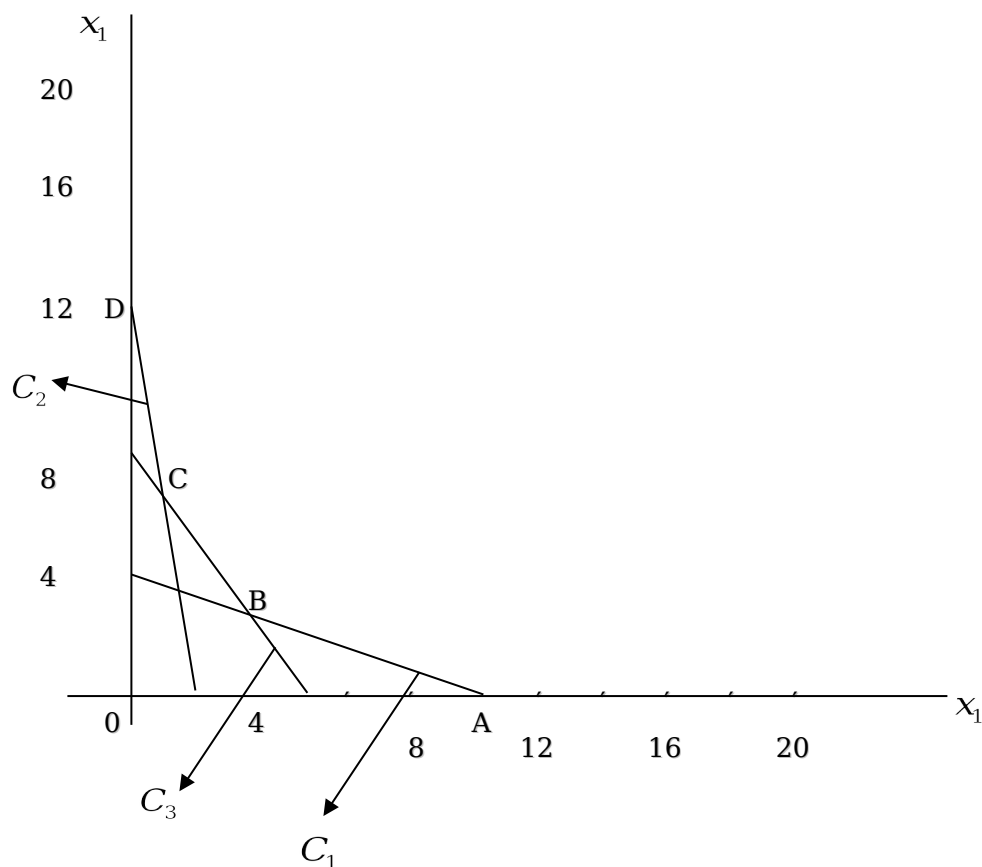

Figure 3.8
3. plot these constraints. Shade in the feasible solution space (see figure 3.8)